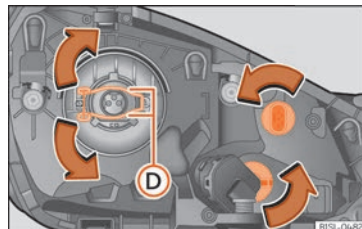

Fig. 49 Left headlight
- Press the safety step »» Fig. 49 Ⓓ down in the direction of the arrow, unhook it to the side and move it away.
- Place the bulb, return it to its position and secure the safety step »» Fig. 49 ②